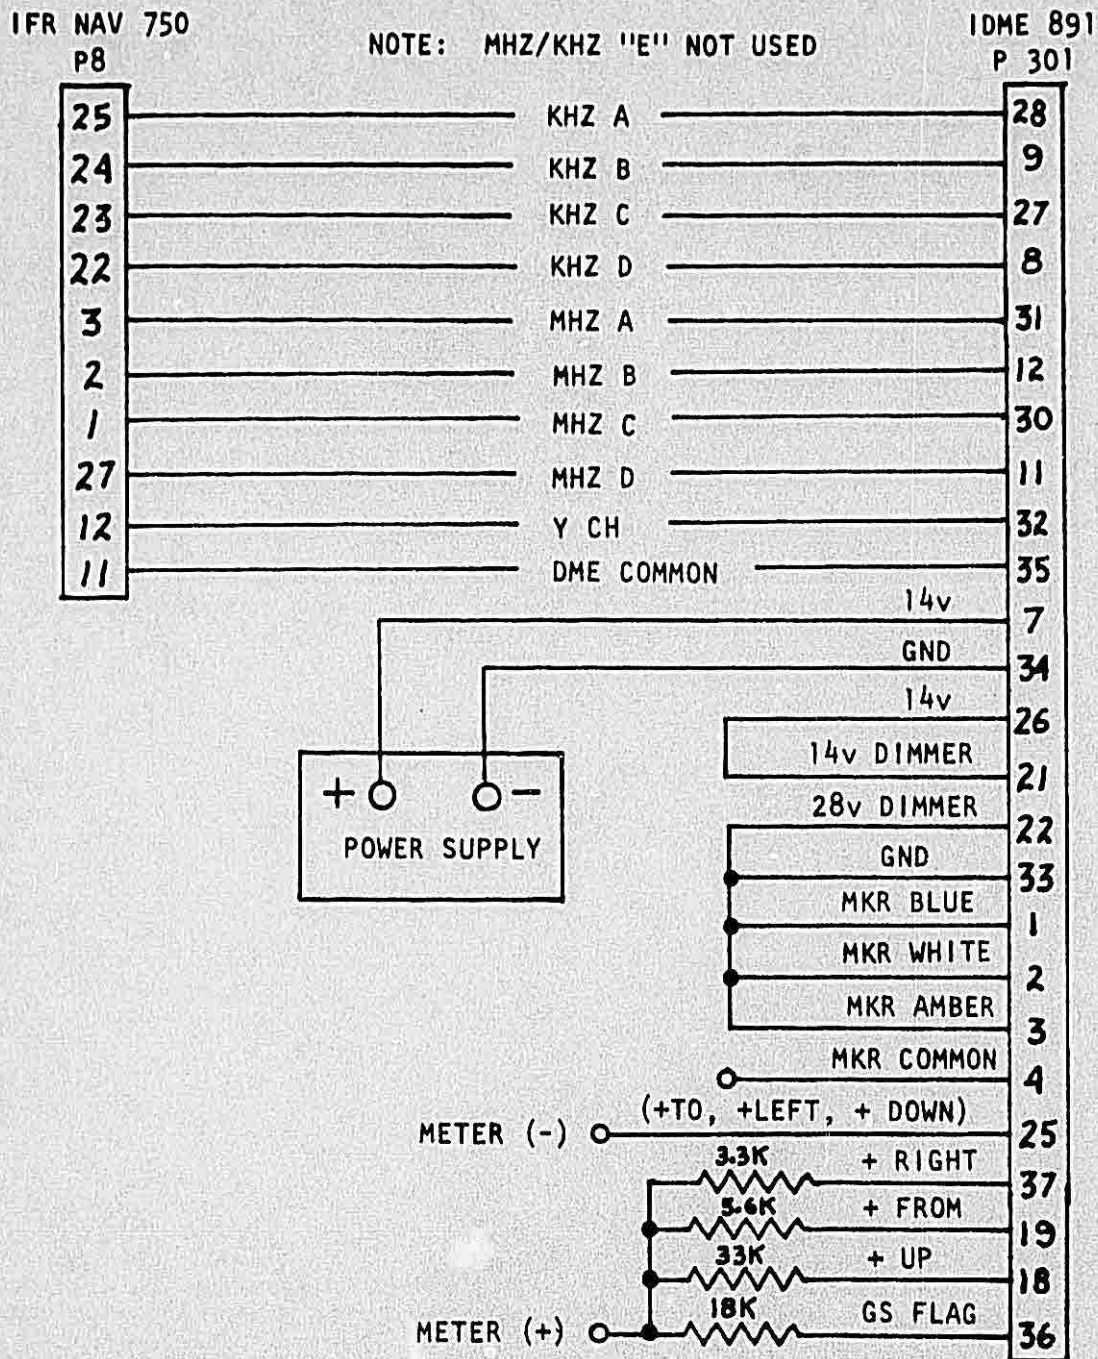

FIGURE 5-1 BENCH TEST HARNESS
The following test is conducted with a harness constructed as shown in Figure 5-1.
2. Connect system for bench test as shown in Figure 5-1.